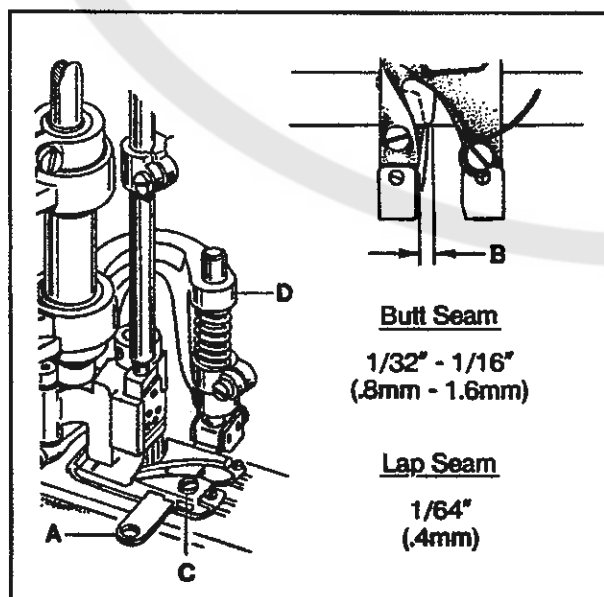

FIG. 28
To make the adjustments for a flat, butt seam, position lower knife (A, Fig. 28) in the foot so it extends  $1/32$ " to  $1/16$ " (0.8mm to 1.6mm) past the right side of the left toe (B) (approximately between the second and third needles). Loosen screw (C) and move knife in or out as required. Tighten screw (C) securely.
To make the adjustments for a lap seam, position lower knife (A, Fig. 28) in the foot so it extends  $1/64$ " (0.4mm) past the right side of the left toe (B) (approximately even with the first needle). Loosen screw (C) and move knife in or out as required. Tighten screw (C) securely.